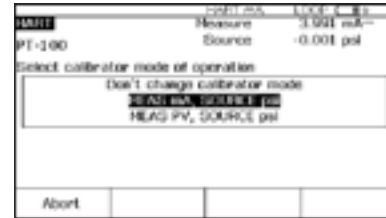

Figure 6.
2. Press the  key again and you are prompted to select the 754 configuration (Figure 6). Selecting **MEAS mA, SOURCE psi** will configure the calibrator to measure the analog mA output and the pressure being applied simultaneously to the transmitter input and the pressure module. (Selecting **MEAS PV, SOURCE psi** will configure the 754 to evaluate the digital PV output from the transmitter.) Press **ENTER** to select.